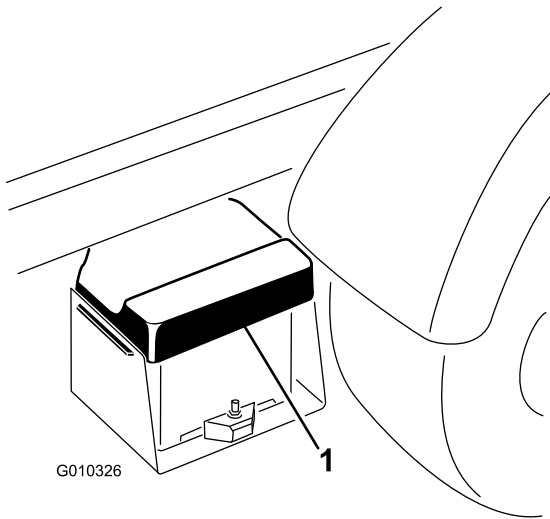

Figure 5
1. Squeeze the battery cover to release the tabs from the battery base (Figure 5).
2. Remove the battery cover from the battery base (Figure 5).
6. Align the battery cover to the battery base (Figure 5).
7. Squeeze the battery cover, align the tabs to the battery base, and release the battery cover (Figure 5).